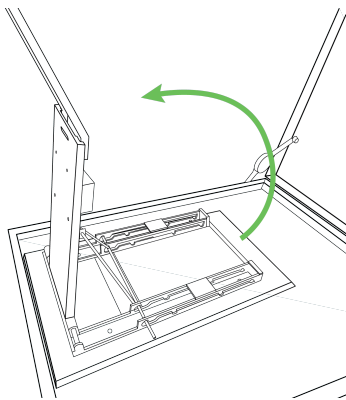

Figure 6-53. Installed kickstand in its upright position
5. Lift the kickstand into its upright position by grabbing the handle and pulling it forward (Figure 6-53).